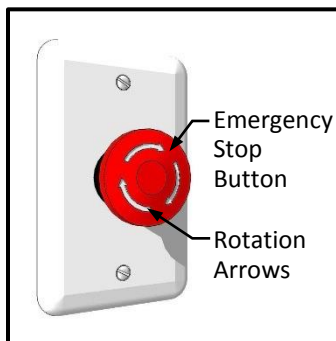

Figure 5
- 9 The emergency stop button shuts down the dumbwaiter when pressed. The dumbwaiter will not function until the emergency stop button is popped back out by rotating the red button a quarter turn clockwise (the same direction the arrows point). **(see Figure 5)**